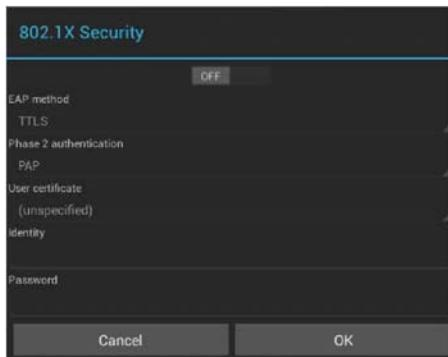

FIG. 61 802.1X Security window (OFF)
1. From the Ethernet page (either tab), select 802.1x Security to open the 802.1x Security window (FIG. 61).